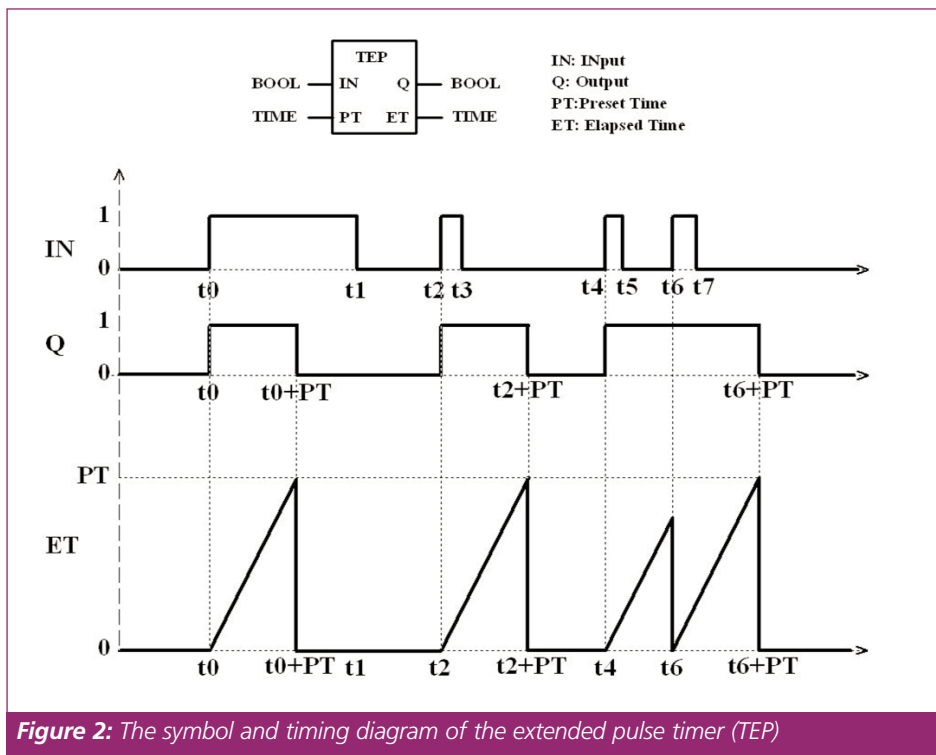

Figure 2: The symbol and timing diagram of the extended pulse timer (TEP)
The symbol and timing diagram of the extended pulse timer (TEP) are both shown in **Figure 2**, from where the difference from the pulse timer (TP) can easily be seen. In UZAM_PLC, only the extended pulse timer (TEP) is implemented. The following section explains the implementation of eight of 8-bit extended pulse timers (TEP) for UZAM_PLC.